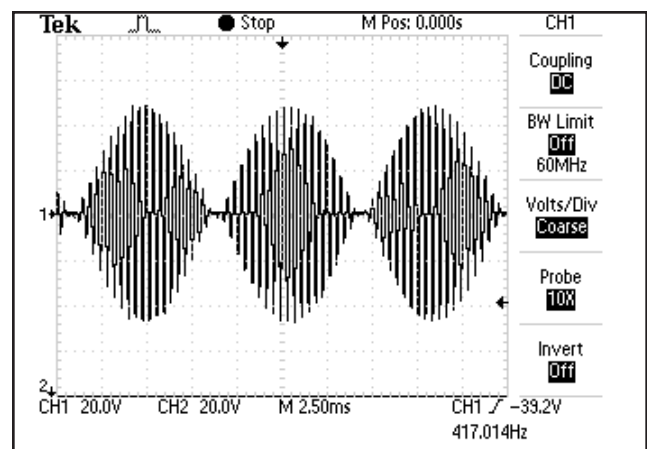

FIGURE 5.6
6. Compare waveform on scope to **Figure 5.6**.
1. Waveform is the same between scope and **Figure 5.6**.